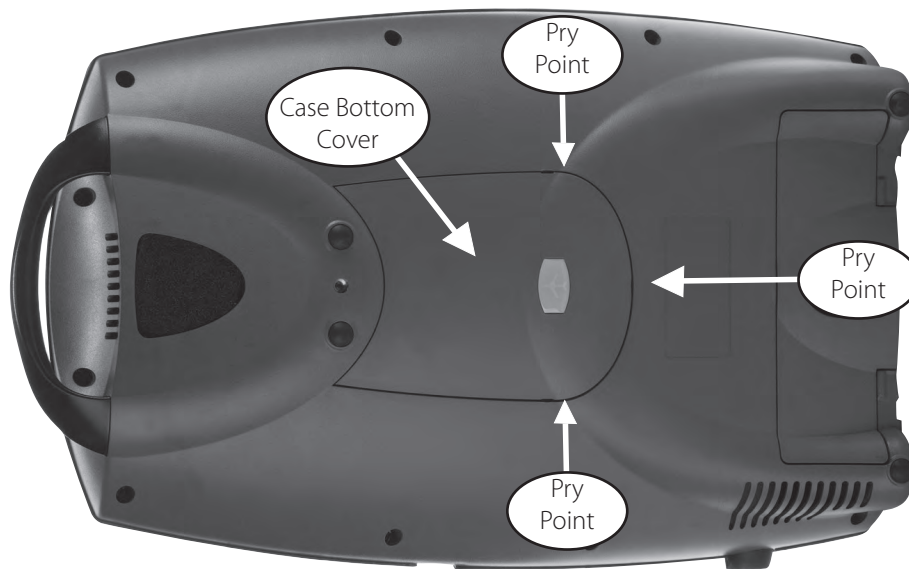

Figure 71: Case Bottom Cover Removal
14. Install the Case Bottom Cover as shown in Figure 71.